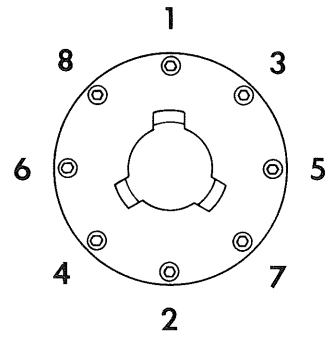

Figure 4
8. Install eight new screws (part number 962241-6). Tighten the screws according to the sequence shown in figure 4.